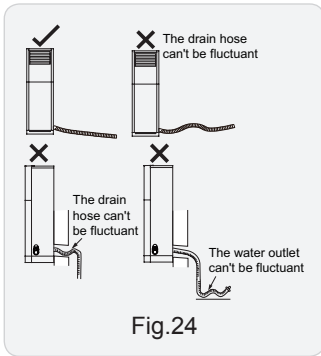

Fig.24
- (2) Slant the drain hose slightly downwards. The drain hose can't be curved, raised and fluctuant, etc. (As show in Fig.24)